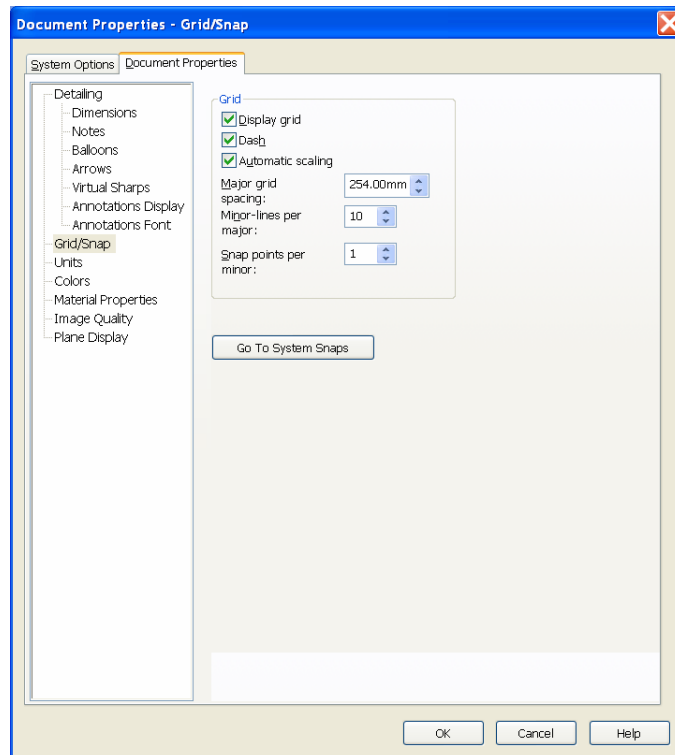

Figure 5 Grid/Snap
- 10) Click **Grid/Snap** in the properties tree box. Check the **Display grid** check box in the grid frame to display the grid in the sketch environment as shown in Figure 5.